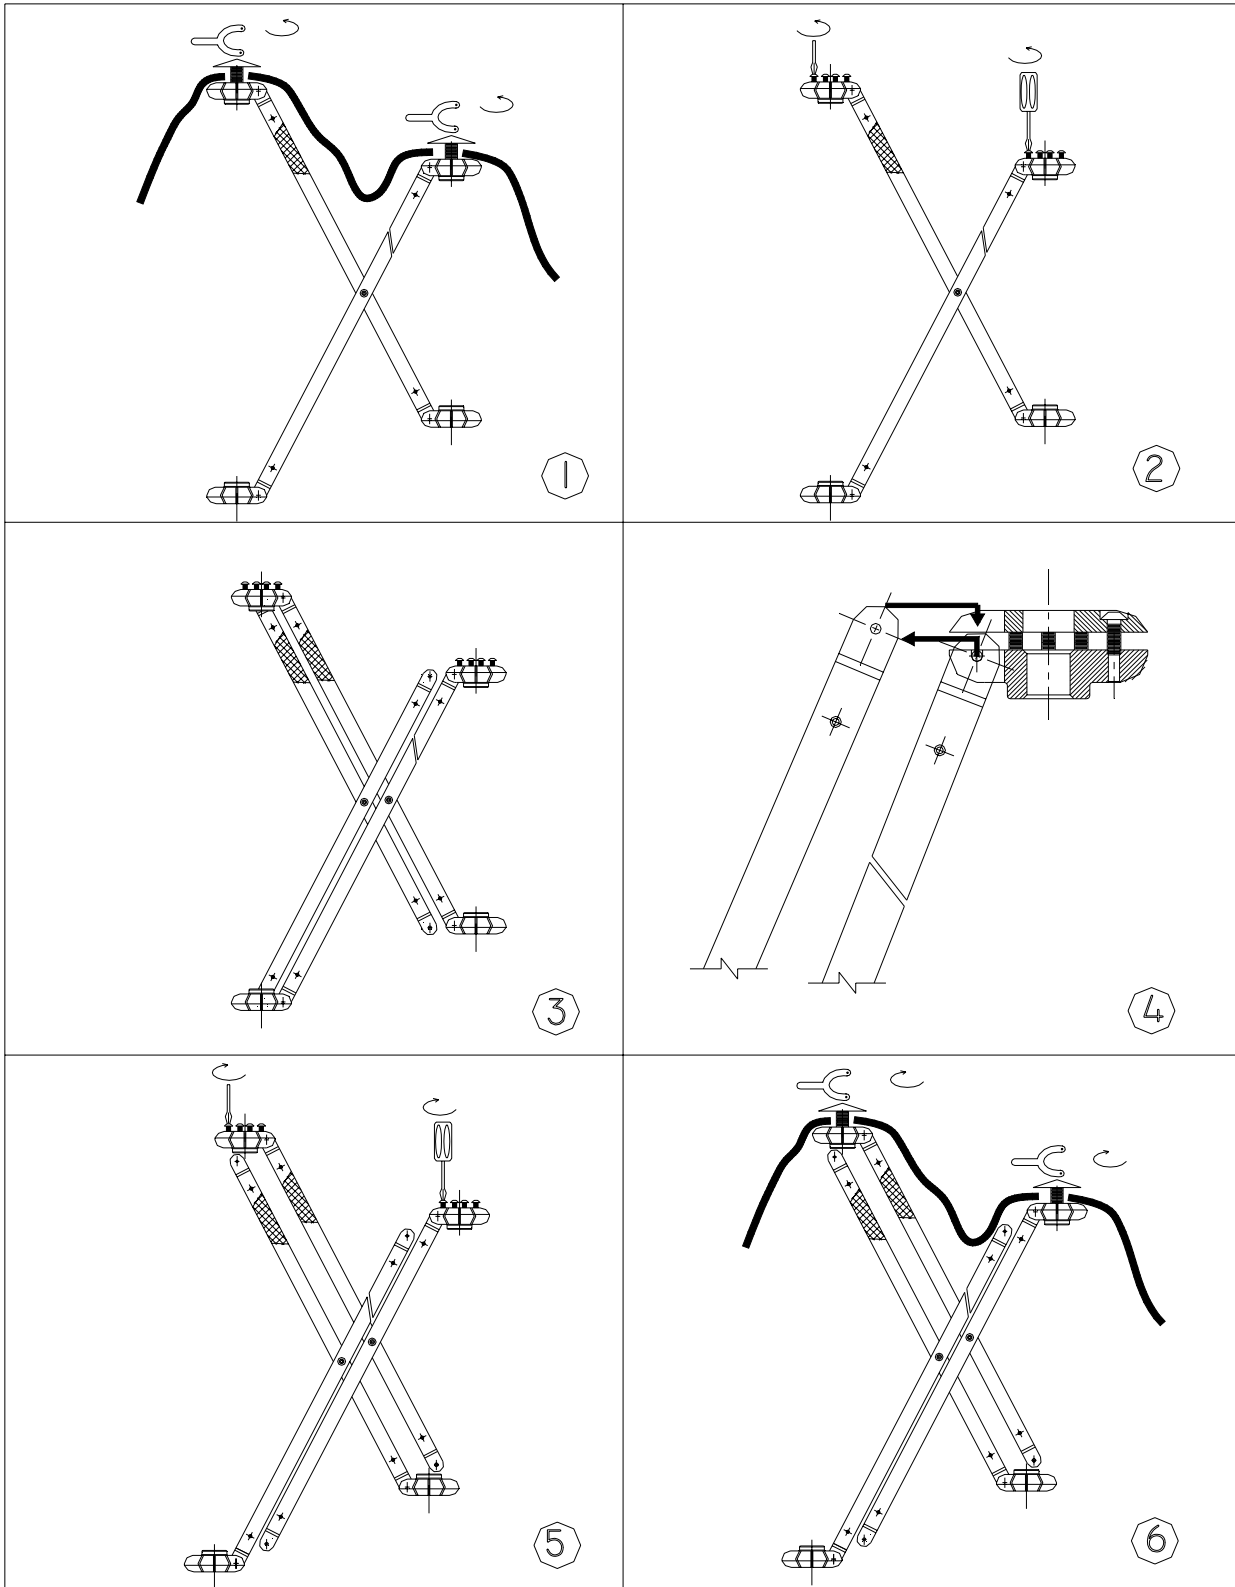
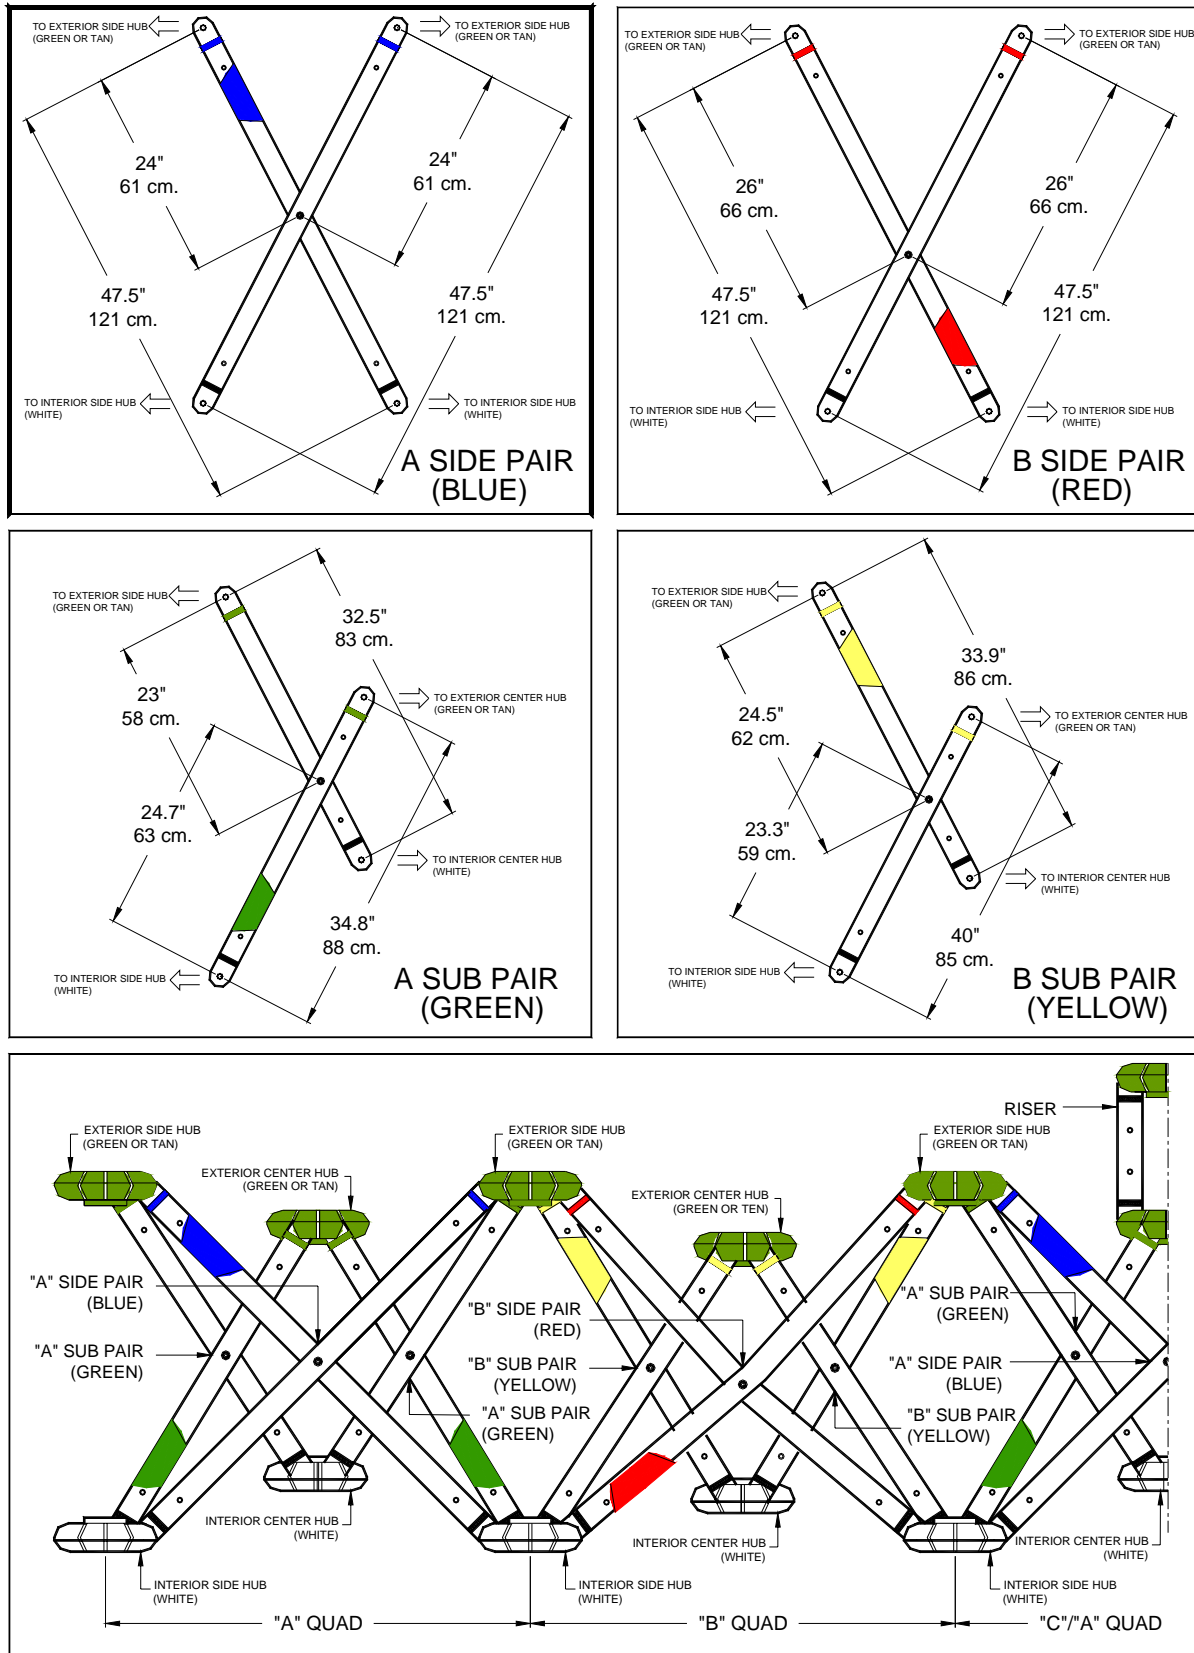

Figure 4-3 - Strut Pair Replacement Frames
Figure 4-4 - XB Shelter Strut Pair Identification – by Color Pairs
If a strut pair(s) is damaged, strike the Shelter and effect repairs as follows: (refer to Figure 4-3, page 4-18, and Figure 4-4, page 4-19).
2. Use a spanner wrench to remove keepers from the exterior cover. Work only in the area where the damaged struts are located (see Figure 4-3, **Frame 1**).
3. Use the ratchet screwdriver to loosen all screws from both exterior hubs where the damaged strut pair is connected. **Do not remove damaged strut pair from hubs at this time** (see Figure 4-3, **Frame 2**).
4. Determine the color code on the damaged strut pair. The color code plug may be located on any one of the four ends of the pair. Select the same color-coded strut pair from the spare parts kit (see Figure 4-4, page 4-19).
6. Place the replacement pair next to the damaged strut pair making certain that both color coded plugs and scissor pins match exactly (see Figure 4-3, **Frame 3**).
7. When the replacement pair is properly positioned, remove the ends of the damaged strut pair from exterior hubs and insert replacement strut pair (see Figure 4-3, **Frame 4**).
8. After replacement pair is in placed, tighten the screws on the exterior hubs so that it is again secured (see Figure 4-3, **Frame 5**).
10. Insert the keeper and tighten by hand until snug. Use the spanner wrench to tighten one-quarter turn past hand tight. **Do not over-tighten**. All seams should be aligned and the fabric reinforced circles around the keepers should not be twisted (see Figure 4-3, **Frame 6**).
NOTE: XB Shelters manufactured before 1998 used colored tags affixed to the struts. Shelters manufactured after 1998 use colored plastic plugs at the end of the struts. Figure 4-4 shows the locations of both the colored plugs and the colored tags.